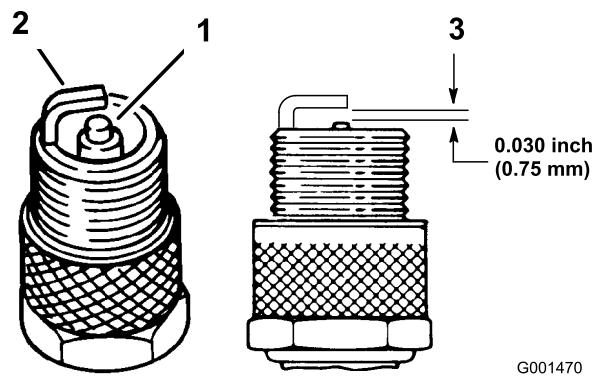

Figure 41
1. Look at the center of the spark plugs (Figure 41). If you see light brown or gray on the insulator, the engine is operating properly. A black coating on the insulator usually means that the air cleaner is dirty.
2. Check the gap between the center and side electrodes (Figure 41). Bend the side electrode (Figure 41) if the gap is not correct.
3. Connect the wires to the spark plugs (Figure 41).